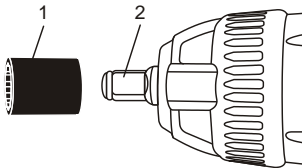

Fig. 1
To install a socket, press the square portion of the socket (1) onto the square drive (2) of the impact wrench (Fig. 1).
1. Install the correct size of impact socket on the impact wrench as outlined in Fig. 1
- Install the correct size of impact socket on the impact wrench (Fig. 1).